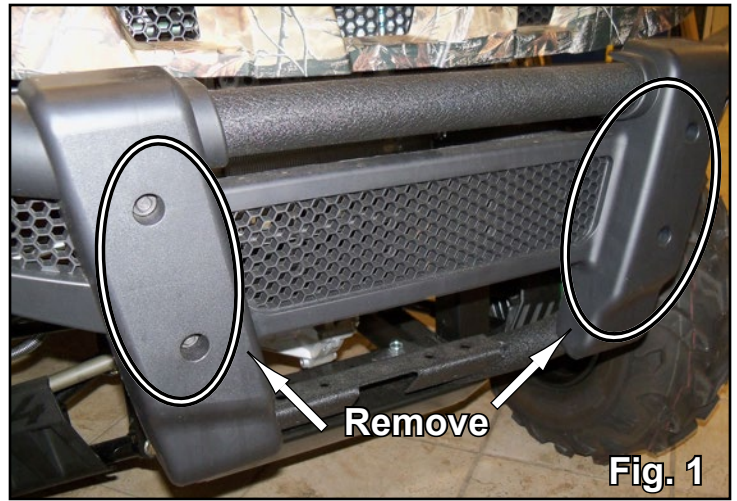

Fig. 1
1. Remove plastic cover shown in Fig. 1.